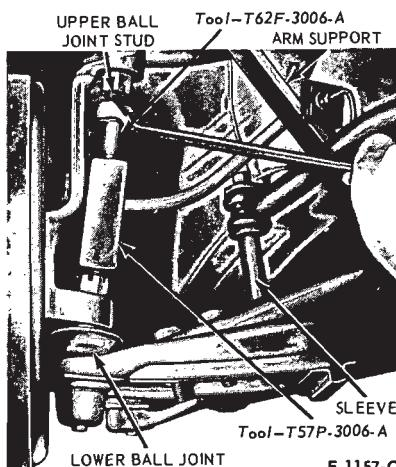

FIG. 6—Loosening Ball Joint Studs in Spindle—Typical
4. Position the ball joint remover tool as shown in Fig. 6. The tool should seat firmly against the ends of both studs, and not against the lower stud nut. It may be necessary to remove the lower ball joint cotter pin if it prevents the tool from seating on the lower stud.